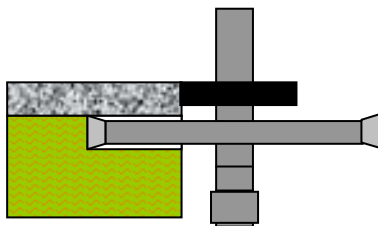

Fig 1
3. Machine mitre joints using conventional worktop mitre jig. Machine a 6 – 6.5mm groove, directly beneath the solid surface sheet to each side of the joint to take the Acrylic loose tongue. See Fig 1.